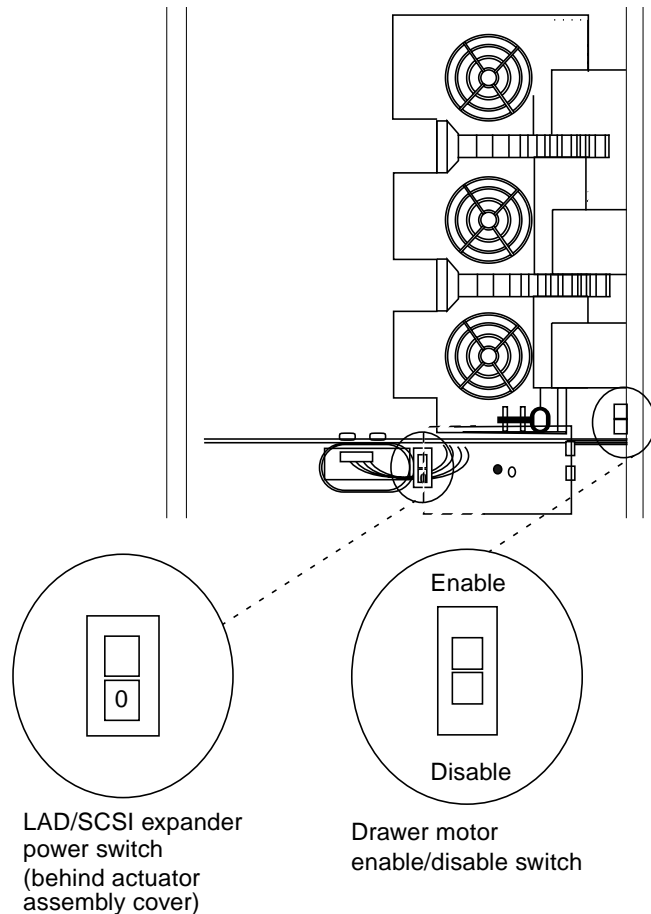

FIGURE B-3 LAD/SCSI Expander Power Switch Location
1. **Power off the LAD/SCSI Expander. See FIGURE B-3 for switch location.**